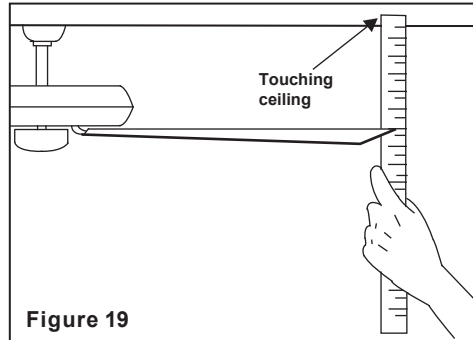

Figure 19
2. Most fan wobbling problems are caused when blade levels are unequal. Check this level by selecting a point on the ceiling above the tip of one of the blades. Measure this distance as shown in Figure 19. Rotate the fan until the next blade is positioned for measurement. Repeat for each blade. The distance deviation should be equal within 1/8".